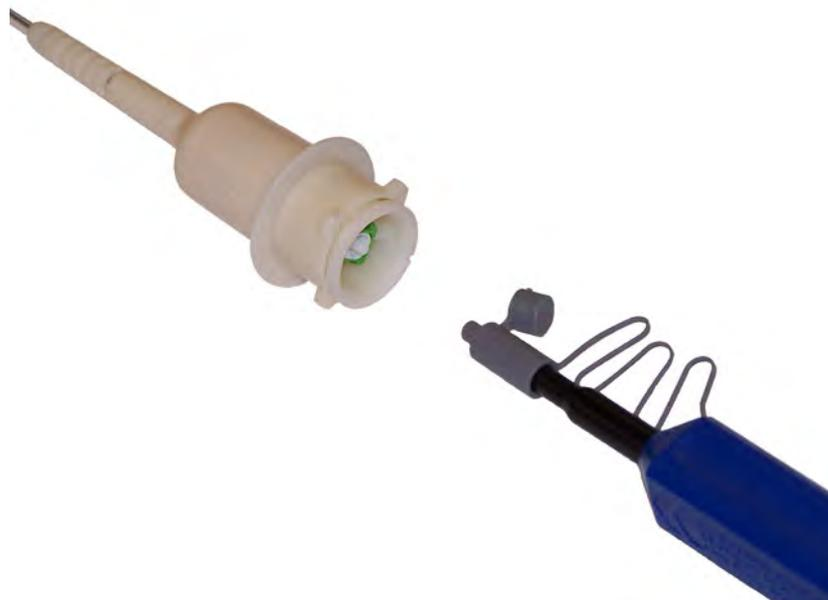

Figure 9-2: Inserting Cleaner Into Catheter
10. Open the sizing cap and place it on the end of the Optical Fiber Connector Cleaner (see Figure 9-2).